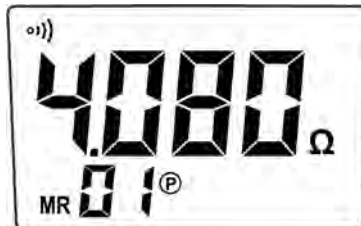

Fig. 29: Recalling result to the display
2. Press and hold the **MEM** key (>2s) to enter the memory recall mode. The "MR" symbol is shown (see Fig. 29)